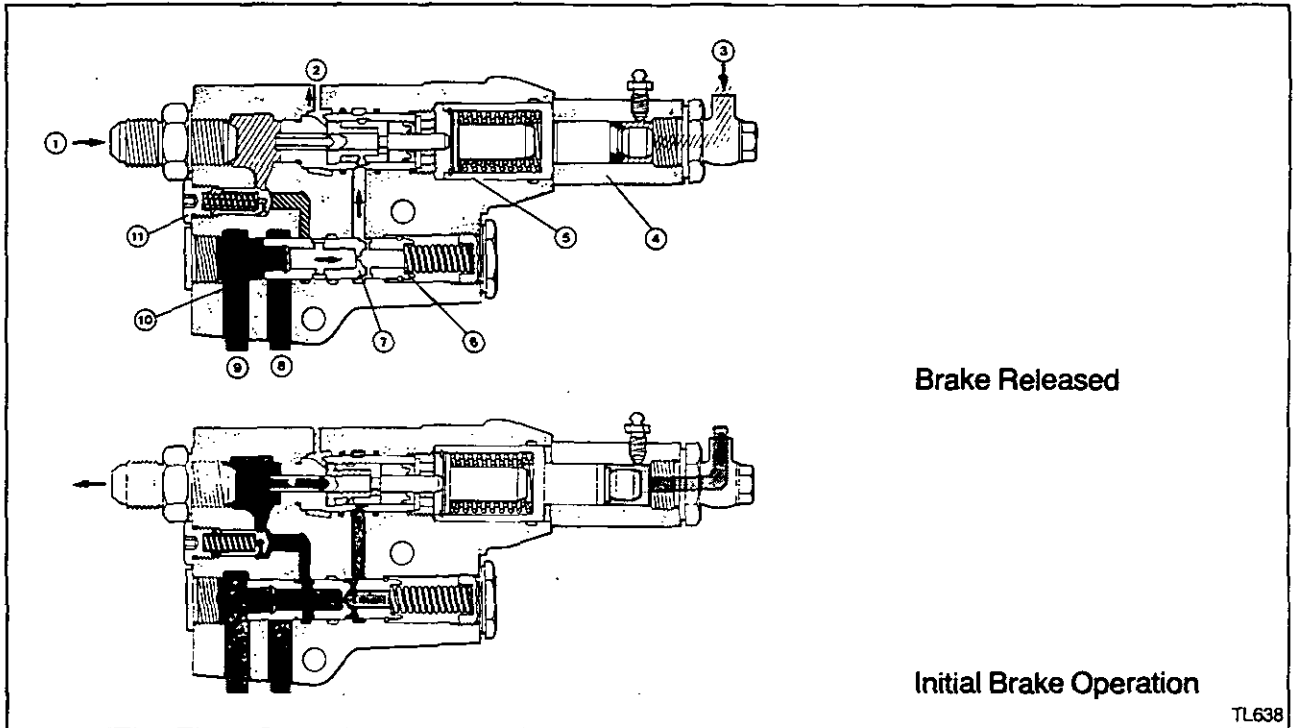

Figure 9. Trailer Brake Valve
Trailer Brake Valve. (Figures 9 and 10).
1. Trailer Brake Released. (Figure 9).
2. Initial Brake Operation. (Figure 9).